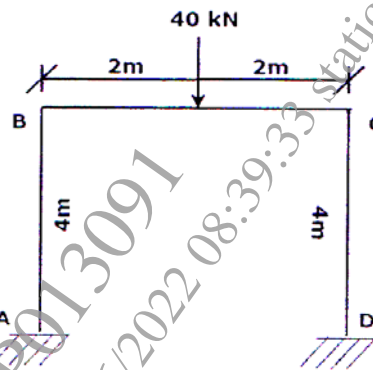

Figure 3
- Q2) a) Analyze the frame shown in figure 3 by slope deflection method and draw BMD. Assume uniform flexural rigidity. [12]